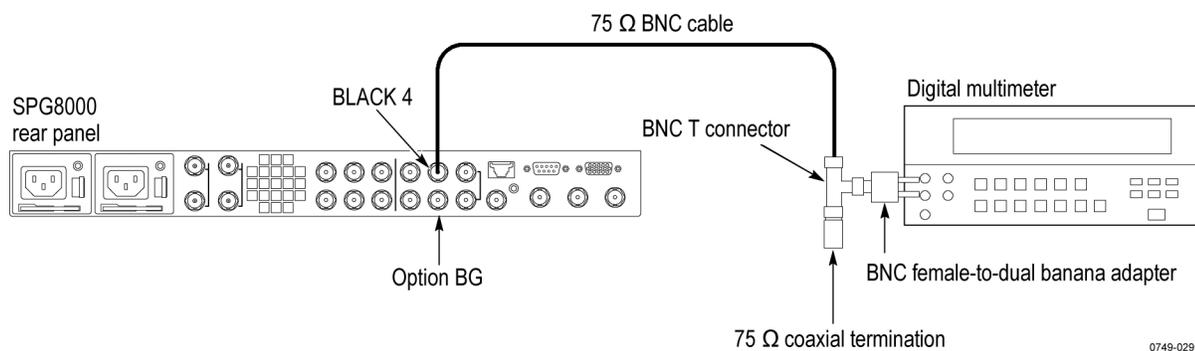

Figure 8: Adjusting the Option BG output offset and gain
3. Use the 75 Ω BNC cable, BNC T connector, 75 Ω coaxial terminator, and BNC female-to-dual banana adapter to connect the BLACK 4 connector to the input connector on the digital multimeter. (See Figure 8.)